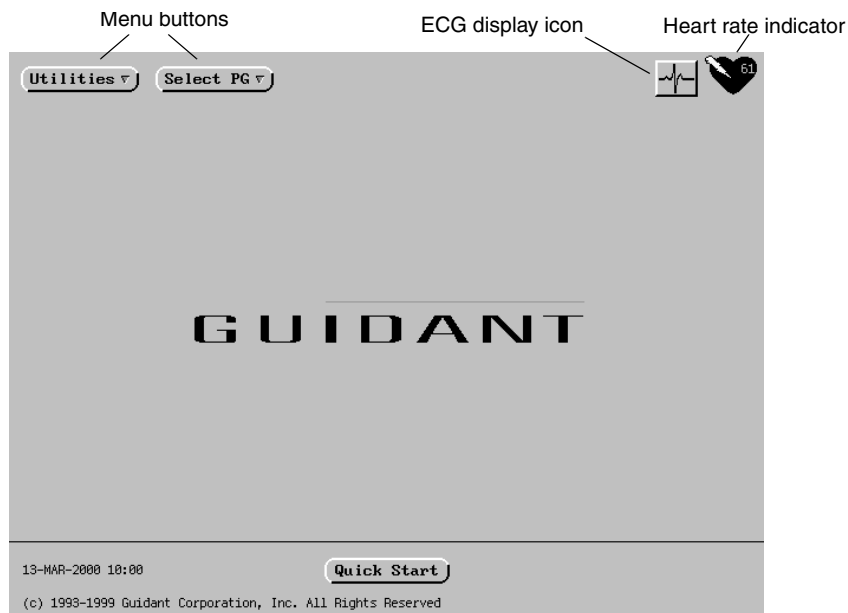

Figure 5-1. The startup screen is displayed when the PRM is powered On.
4. Wait for the Guidant startup screen (Figure 5-1) to appear.